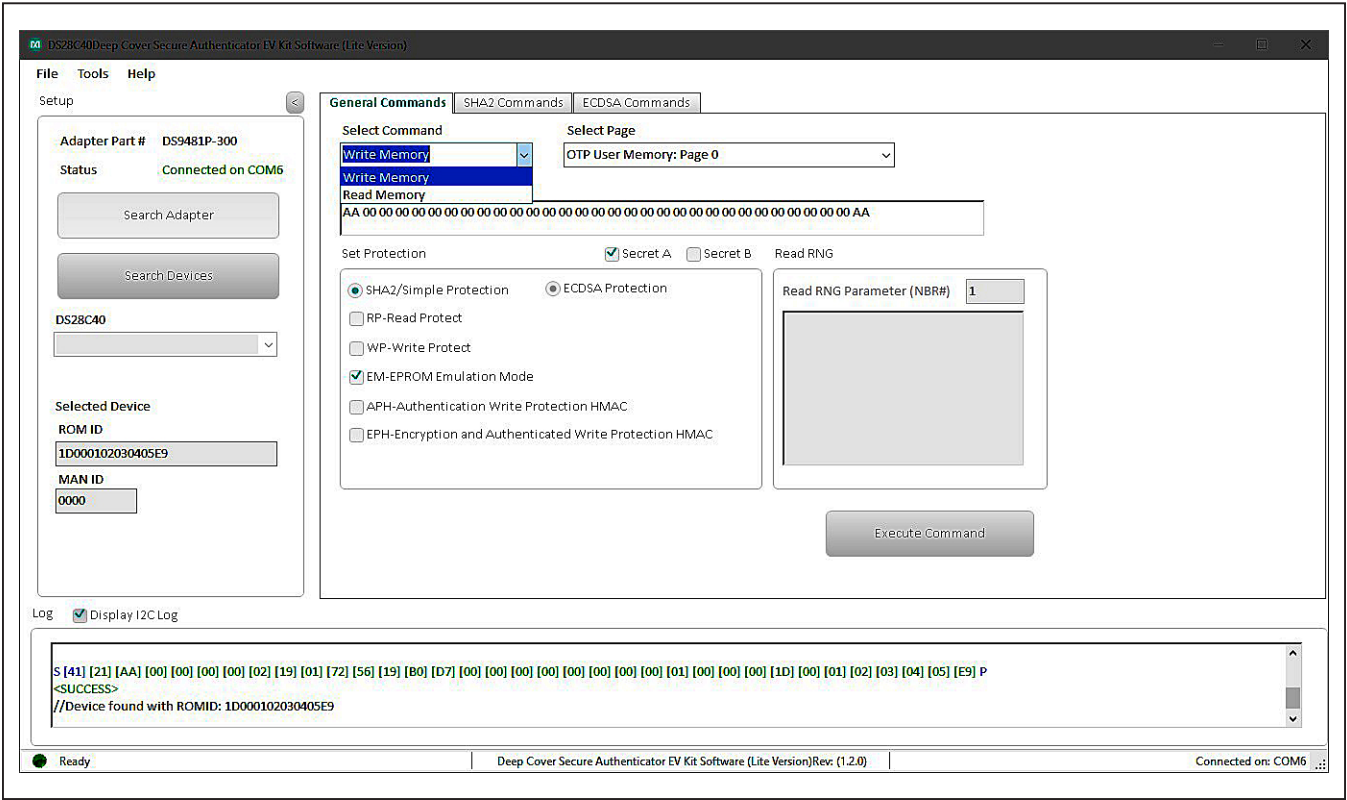

Figure 13. Selecting Command
- 1) Select the **General Commands** tab (Figure 13).
- 2) Select the **Write Memory** command from the combo box selection (Figure 13).
- 6) To perform a memory read, in the **General Commands** tab, select the command from the **Select Command** drop-down menu (Figure 13).
- 1) Under the **General Commands** tab, in the **Select Command** drop-down menu, select **Write Memory** (Figure 13).